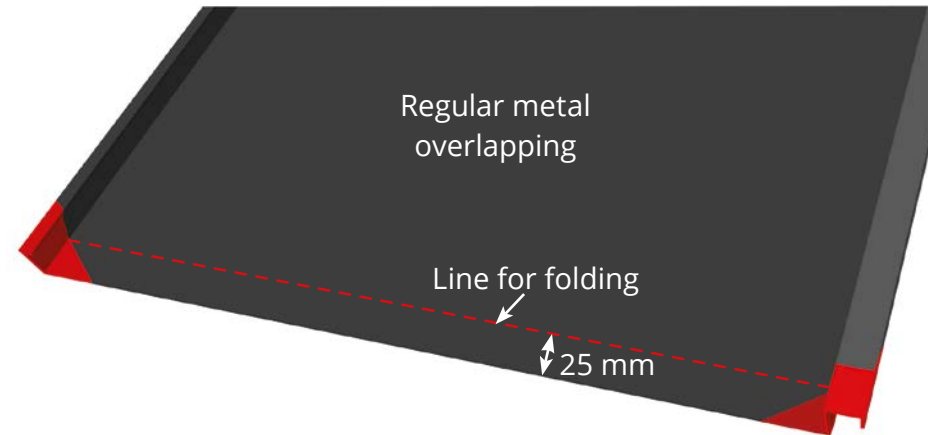

Fig. 11
- b.** Leaving a 25 mm space for folding (Fig.11).